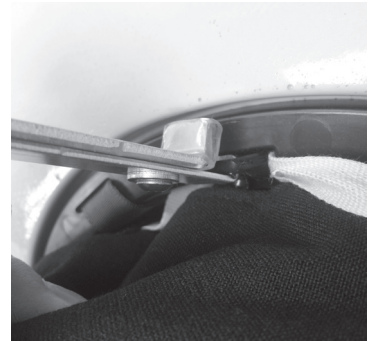

FIG. 4
2. Remove the headband by releasing four retaining tabs from the shell, using recommended LION tool (can be purchased as LION kit #LFH1058). Remove ear covers. **(FIG. 4)**